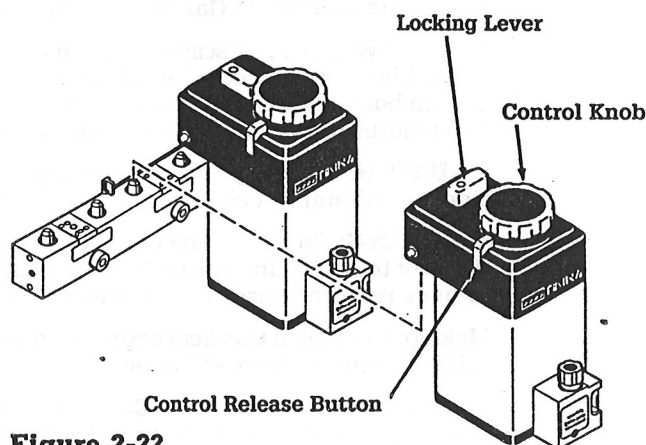

Figure 2-22
1. Move the vaporizer control knob to "Off." (See figure 2-22.)